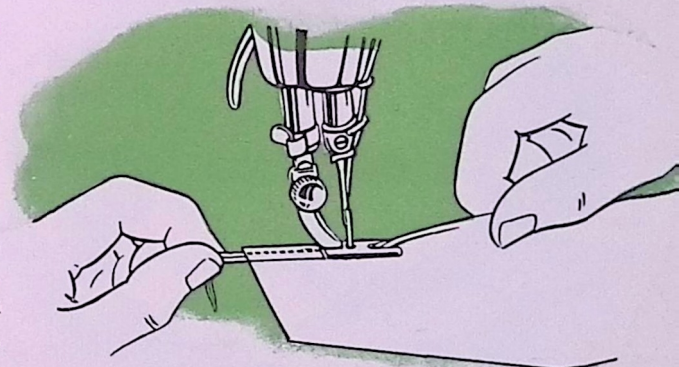

Fig. 37. Hemming Edge of Material and Pulling Back Threads While Sewing
4. Lower hemmer and commence to sew, slightly pulling threads back while sewing. **Keep mouth of hemmer full to produce a smooth, even hem, as shown in Fig. 37.**